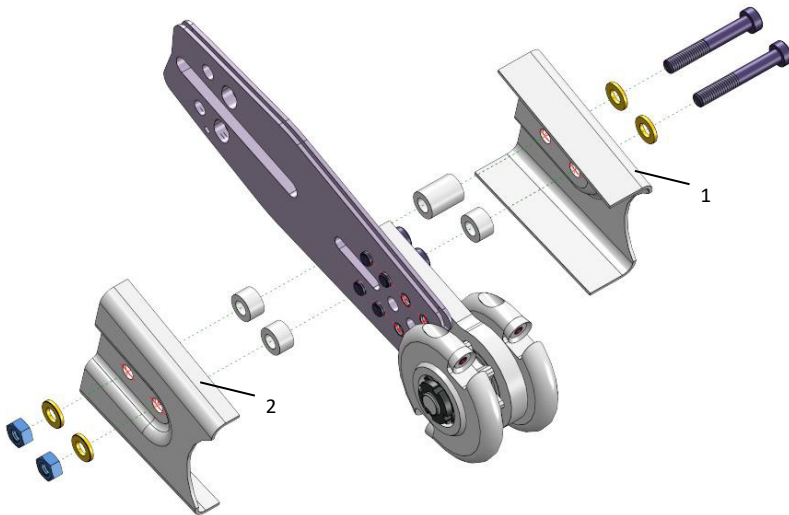

Fig. 2. Mounting the protective plates
- To mount the protective plates, first insert two M6 cap screws with washers into the left protective plate (1- Fig 2). The spacer sleeves can then be placed on the inside of the protective plate. The longer sleeve is placed on the screw which is closest to the saw. The protective plate with the screws can then be connected to the trough cutter through the holes on the bearing block and the guide bar. After mounting the two short spacer sleeves and placing the right-hand protective plate (2- Fig 2), tighten the hexagon nuts. (nut SW 10, screw SW 5)